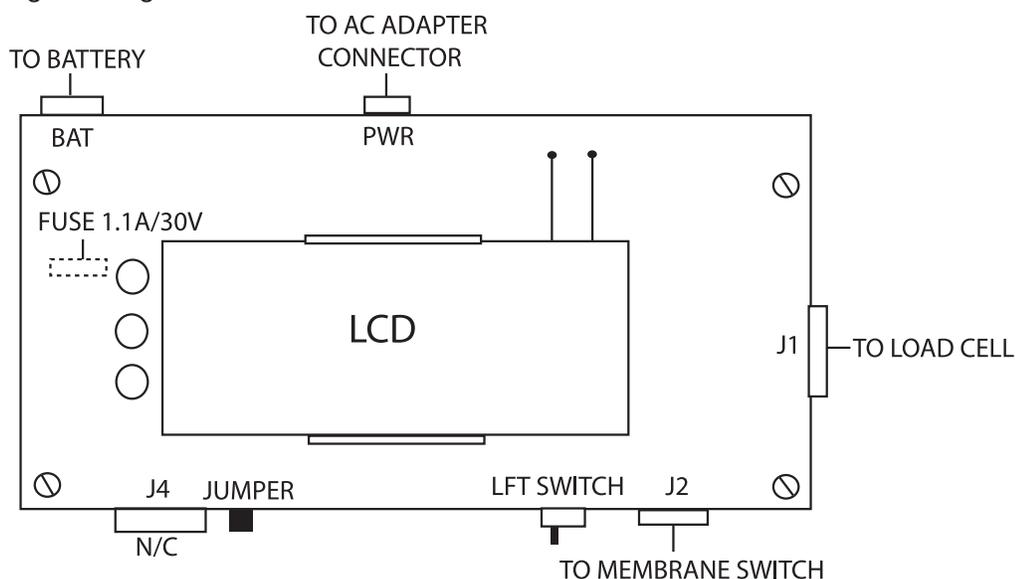

Figure 4-2. Connector Locations.
2. Remove the BAT connector plug from the Main PC Board which is battery and the PWR connector which is used for external power that connects to the AC Adapter plug on the Base Housing. See Figure 4-2.